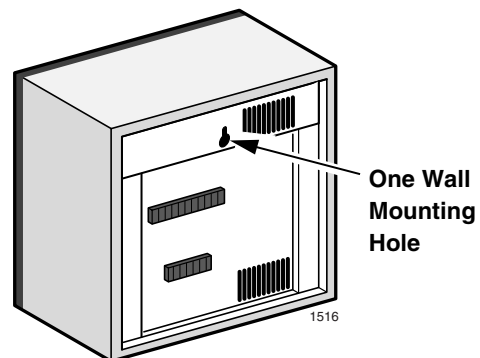

Figure 12-24 HESB Wall Mounting
1. Find a suitable location on the mounting surface for the HESB (see Figure 12-24).